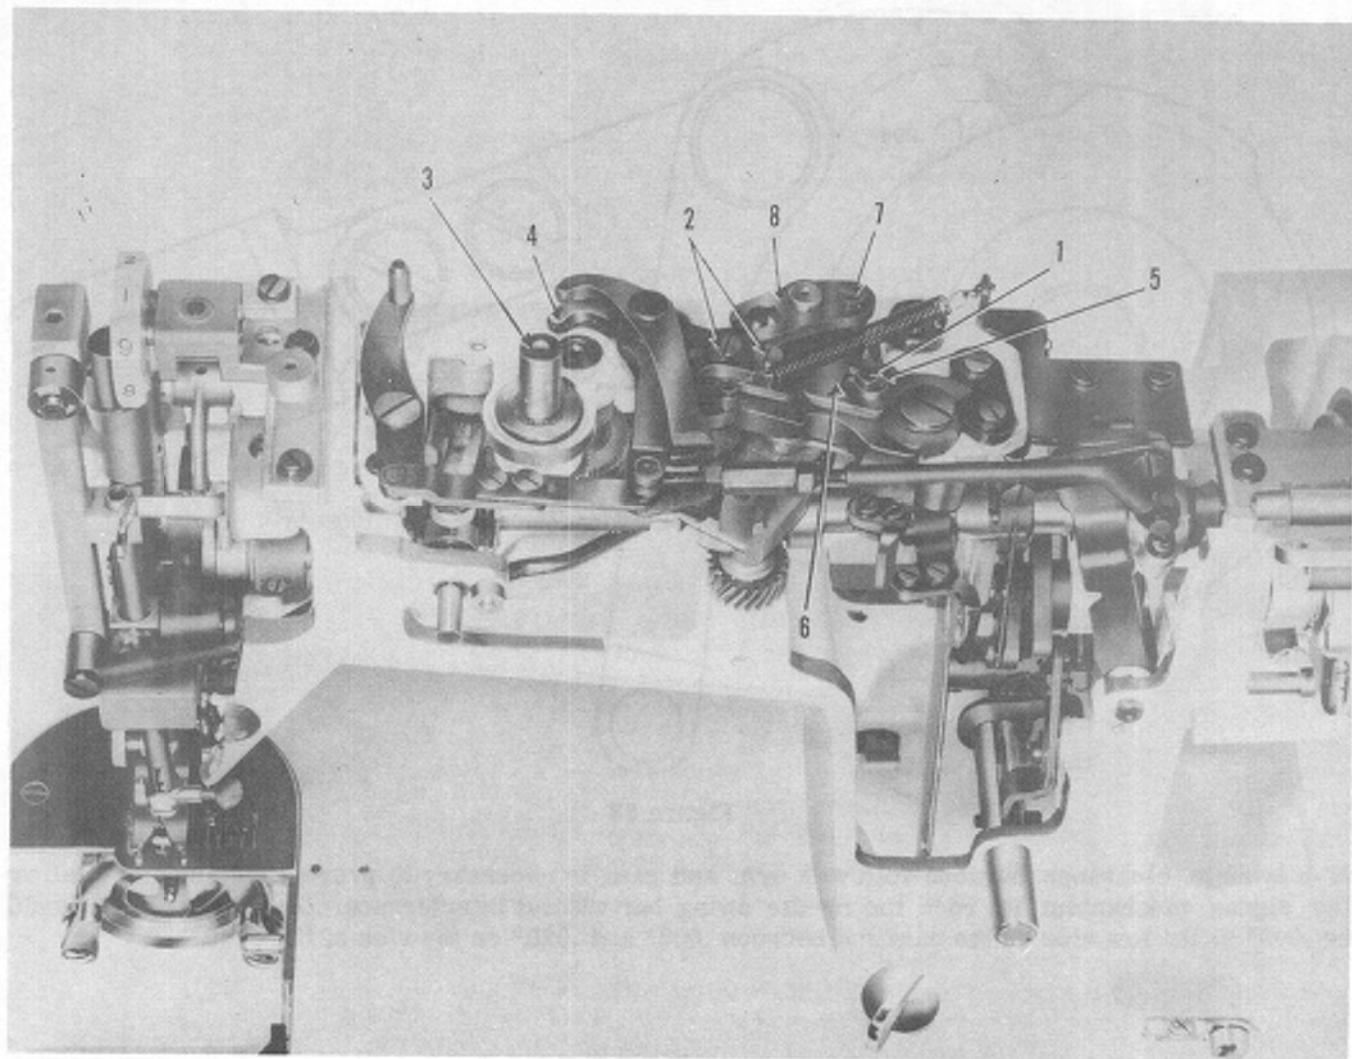
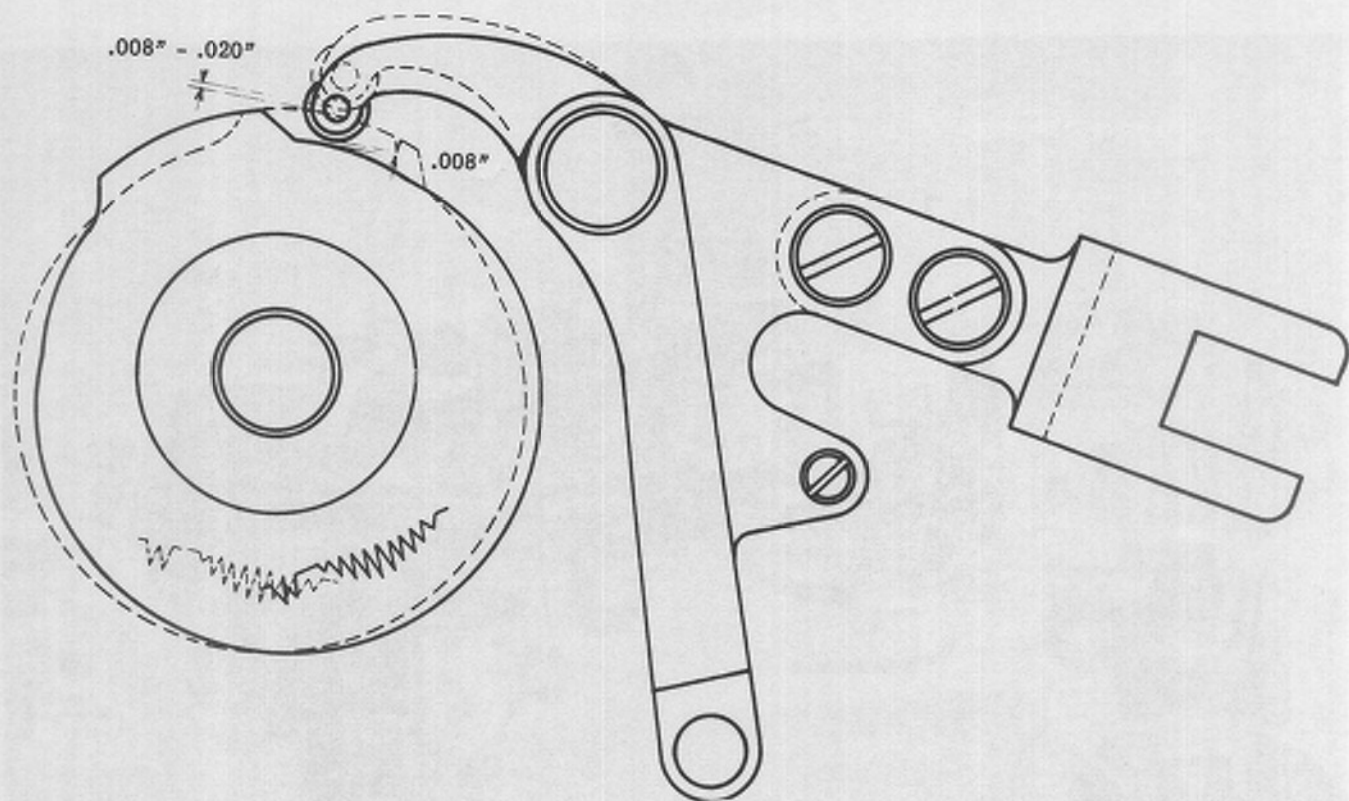

Figure 32
Figure 33
3. Turn handwheel until the roller on the point of the middle cam follower comes to the lowest point on the cammed surface. Check clearance. Clearance should be .008" (Figure 32 No. 3). If the clearance is more than .008" the pattern will be too narrow. If the clearance is less than .008" a zigzag stitch will tend to be made where a straight stitch should have been in the pattern.
4. To adjust the clearance at this point loosen the two set screws on the base of the follower (Figure 32 No. 2) and adjust as necessary.
5. After this adjustment has been made, turn the handwheel until the roller on the middle cam rides on the high point of the No. 1 cam. Next turn the stitch width knob to 4. With the machine on this setting the clearance between the follower Roller (Figure 32 No. 4) and the high point on the cam track should be between .008" and .020" (Figure 33). If clearance differs from this, a second adjustment can be made to this cam -- loosen set screw (Figure 32 No. 5) and turn the eccentric pin as necessary to bring the follower point within the tolerances specified above. The wider tolerance is allowed at the high point of the cam to provide for easier insertion and removal of the cams.
screw (Figure 32 No. 7) and adjust the forked rocker plate (Figure 32 No. 8) until proper clearance is obtained. Tighten set screw.